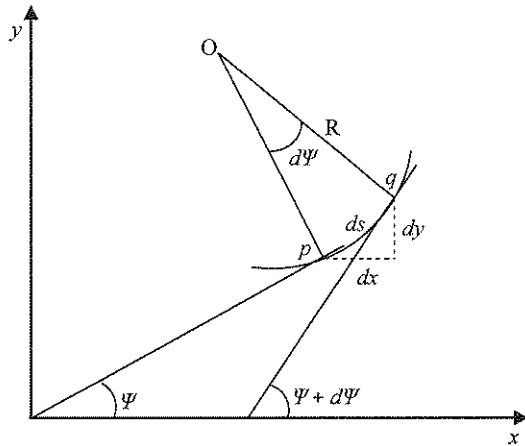

Figure 3
a) By considering a small element of a beam subjected to bending forming an arc length ds (i.e. pq) as shown in Figure 3, the radius of curvature is R with dx and dy are the horizontal and the vertical lengths respectively and made an angle of $d\psi$ at centre point O . Derive the relationship of the bending moment (BM) in terms of the flexural rigidity (EI) and the radius of curvature. Subsequently explain how the slope and the deflection could be calculated.